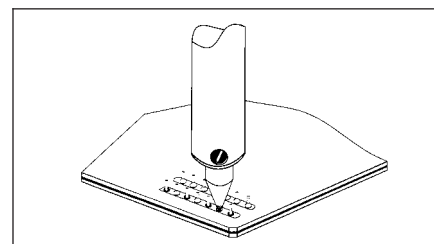

Figure 2 Melt Solder
8. Confirm complete solder melt of contacted lead. (See Figure 2.)